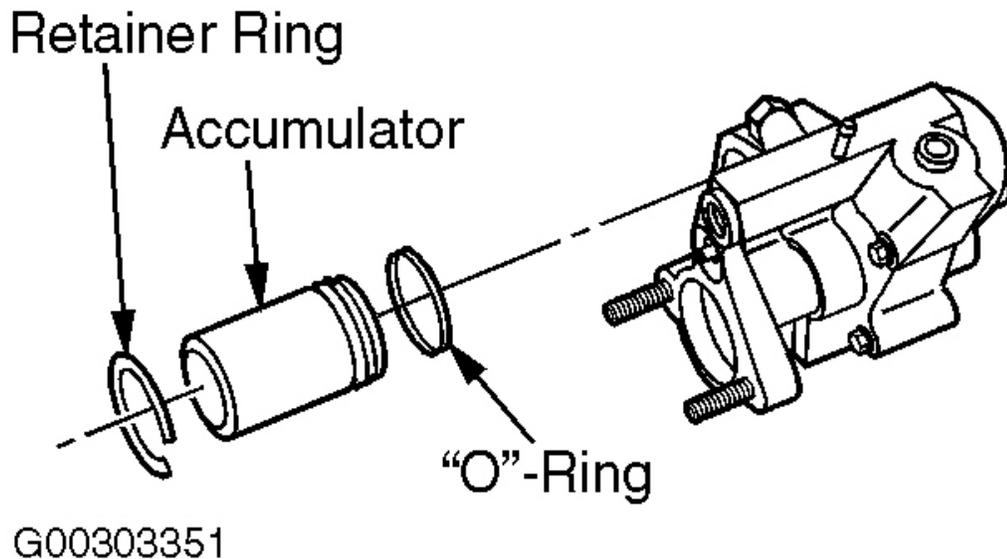

Fig. 34: Exploded View Of Accumulator Components
4. Remove the accumulator retainer ring using a small hook shaped tool. See **Fig. 34**. Release the C-clamp. Remove the nut from the stud. Remove the Accumulator Piston Compressor (J-26889). Remove the